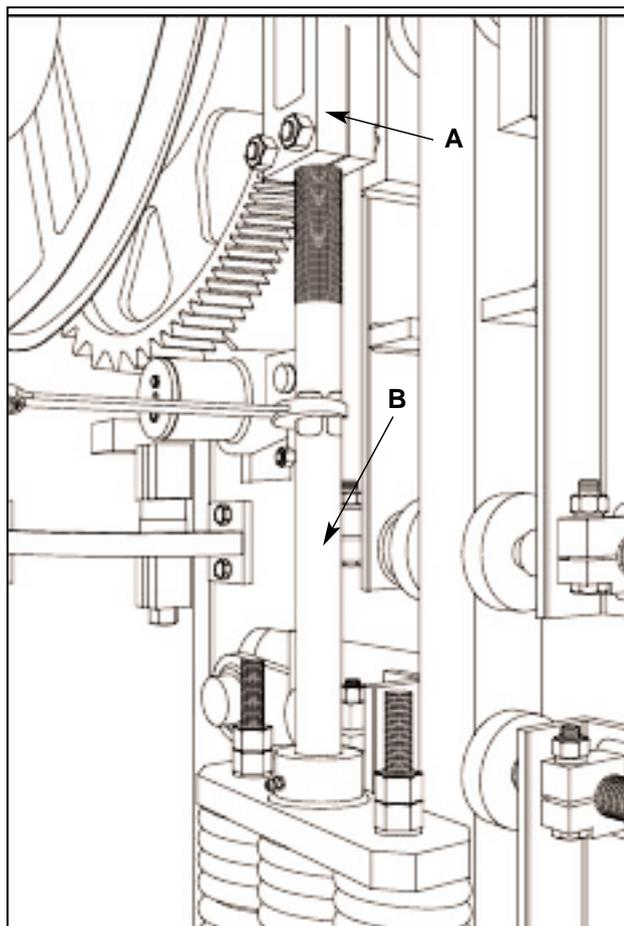

Figure 5.18 PALLET RECEIVER LINK ROD (LEFT SIDE SHOWN).
- 5.5.4 If the dimension on each side is not approximately 5/8” [16mm], adjustment must be made using the pallet receiver link rods (B) (see figure 5.18, next page), after loosening nut (A) (see figure 5.18).
5.5.8 If the dimension on each side is not 5/8" [16mm], adjustment must be made using the pallet receiver link rods (B) (see figure 5.18), after loosening nut (A) (see figure 5.18).
5.5.11 Recheck level of mold and adjust following steps 5.5.3 to 5.5.5 until mold is perfectly levelled. Tighten nut (A) (see figure 5.18).